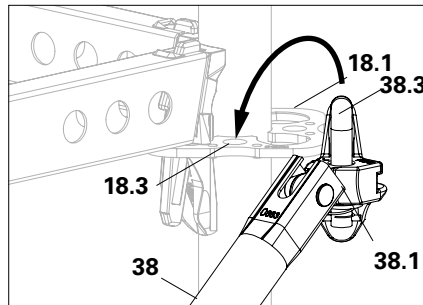

Fig. A5.01a
1. Push the brace head (38.1) with raised bolt (38.3) onto the upper rosette (18.1). (Fig. A5.01a)